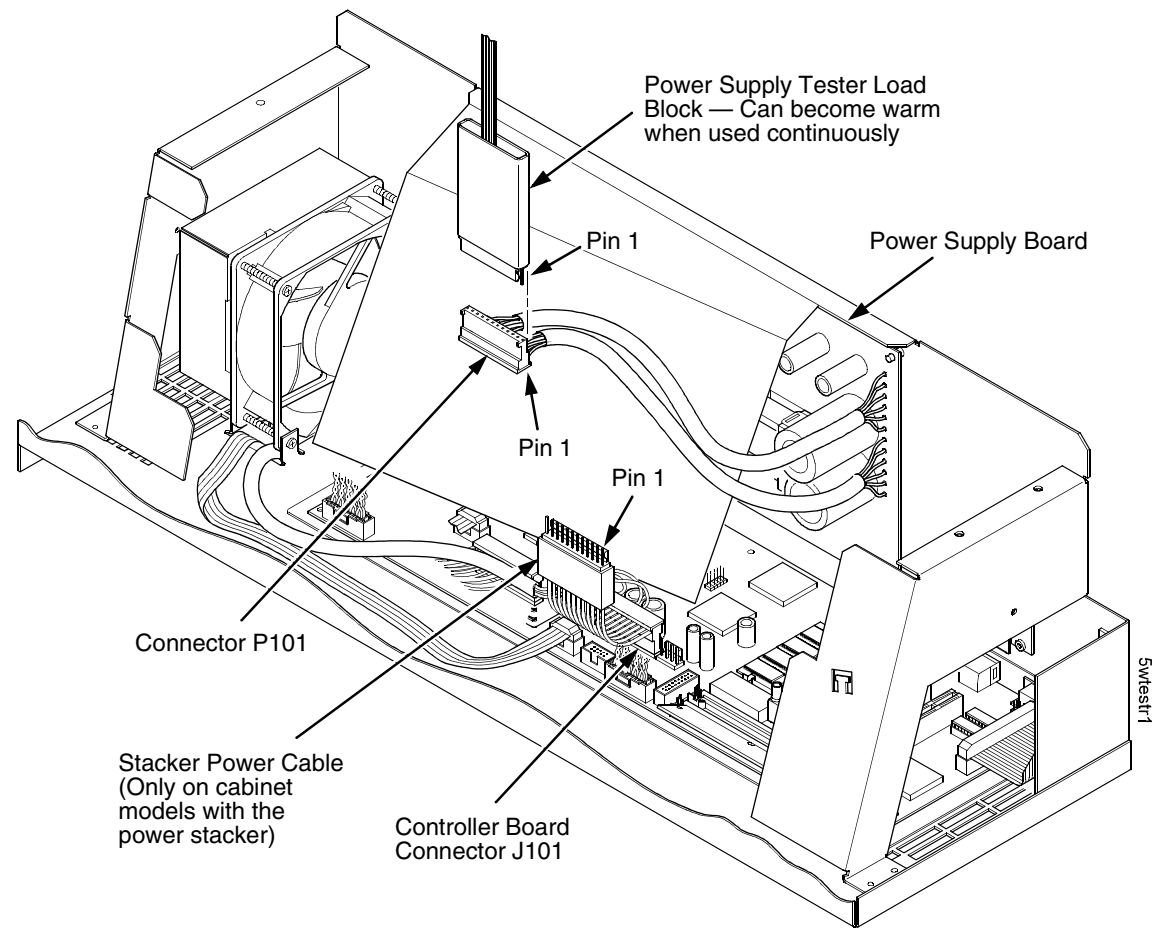

Figure 12. Connecting the Power Supply Tester
4. Disconnect power supply cable connector P101 from either the power stacker power cable or connector J101 on the controller board. (Figure 12.)
5. Plug power supply connector P101 into the 12-pin connector on the power supply tester Load Block, as shown in Figure 12. Note the position of Pin 1 relative to the Load Block.
23. Unplug power supply connector P101 from the 12-pin connector on the power supply tester Load Block. (Figure 12.)
24. Connect power supply cable connector P101 to either the power stacker power cable or connector J101 on the controller board. (Figure 12.)